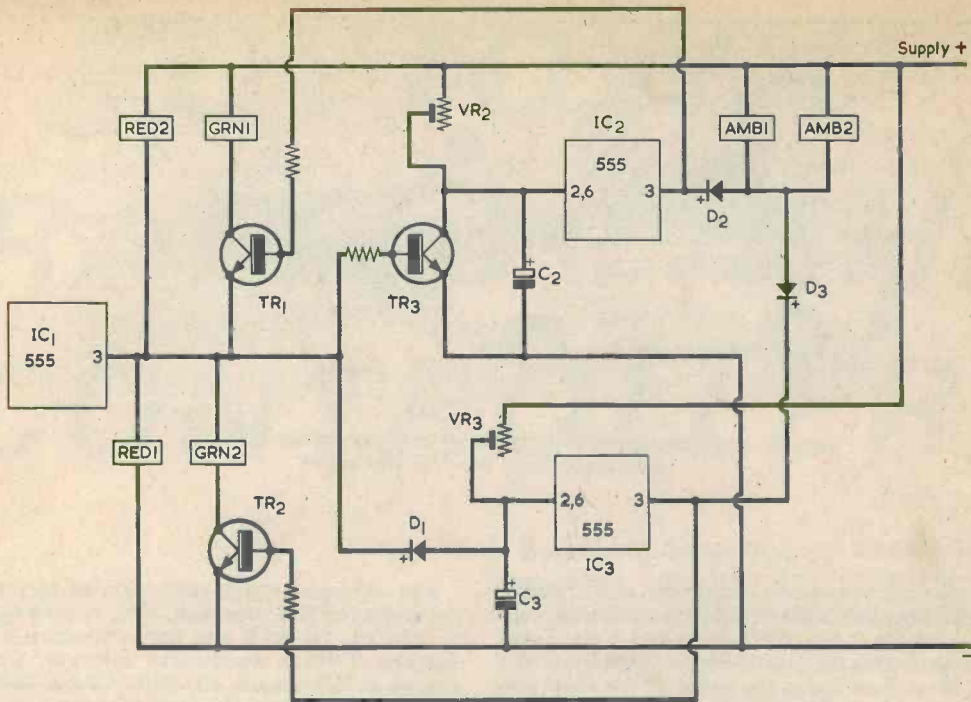
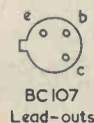

Fig. 3. Simplified circuit demonstrating the operation of the traffic light controller
Fig. 4. The full working circuit of the controller
Fig. 3 shows a simplified circuit of the sequence switcher. Here, the blocks identified as "Red 2", "Grn 1", etc., represent the l.e.d. or l.e.d.'s in each set, together with their series resistors. IC1 is in a standard 555 multivibrator circuit and produces a near-square wave at its pin 3 which changes state at relatively long intervals. IC2 and IC3 are also 555 i.c.'s, and are employed without their discharge function. Pins 2 and 6 connect to the internal comparators and all that has to be remembered here is that when these two pins are taken lower than one-third of VCC the output at pin 3 goes high (i.e. close to the positive rail), and that when the two pins are taken above two-thirds of VCC the output at pin 3 goes low (i.e. close to the negative rail).
The full circuit diagram appears in Fig. 4. This is the same as Fig. 3 with components added for practical operation.
The blocks of Fig. 3 which represented the lights are now replaced by the actual l.e.d.'s. Two are shown at each position but, as already mentioned, there may be any number from one to four. The l.e.d.'s at each position are connected in series as indicated. The diagram also shows the series resistor values for different numbers of l.e.d.'s. These resistor values assume a forward voltage per l.e.d. of around 2.2 volts with a forward current of the order of 20mA.
TR1, TR2 and TR3 are switched in the same manner as in Fig. 3, but an extra 1kΩ resistor is added across each base and emitter. These extra resistors ensure that each transistor is fully cut off when the associated 555 output goes low, and guards against the (admittedly unlikely) possibility of an i.c. output not being adequately negative when in the nominal low state.
- R3-R6 See Fig. 4
- R16 See Fig. 4
- R17 See Fig. 4
No connections are made to any of the i.c. pins which do not appear in the circuit of Fig. 4.